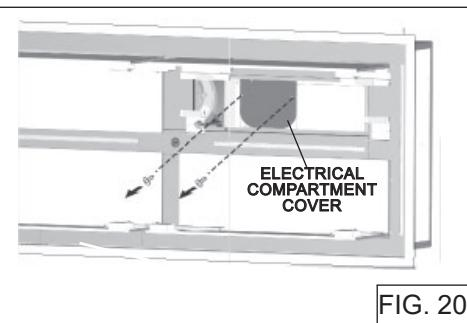

FIG. 20
1. Remove electrical compartment cover by removing (2) screws (Fig.20).